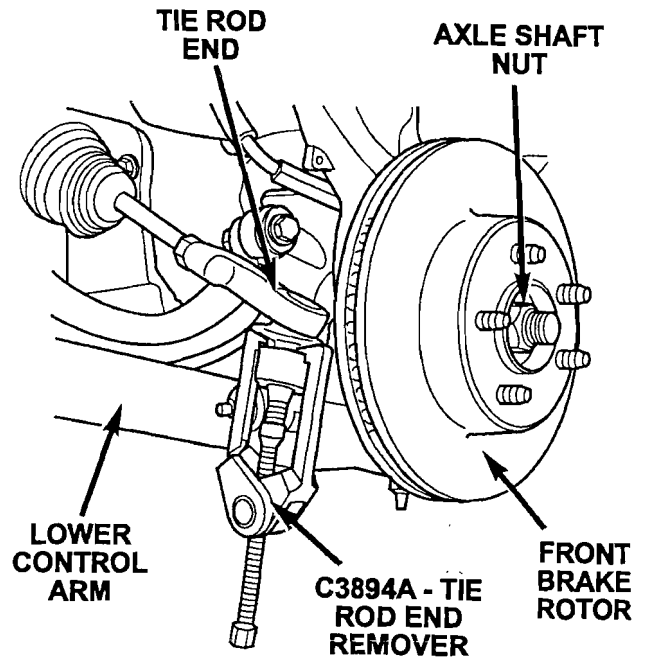

Figure 1
3. Separate the tie rod end from the steering knuckle using special tool C-3894A (Figure 1).
8. **For four wheel drive vehicles,** remove the axle shaft nut (Figure 1).